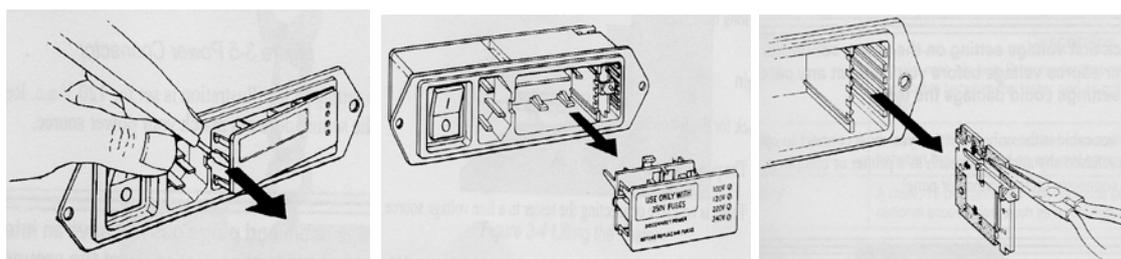

Figure 3-8 Pry out fuse holder Figure 3-9 Remove fuse holder Figure 3-10 Remove Voltage selector
1. Insert a small flat-headed screwdriver or probe into the middle of the connector and pry out the fuse holder as Figure 3-8 illustrates.